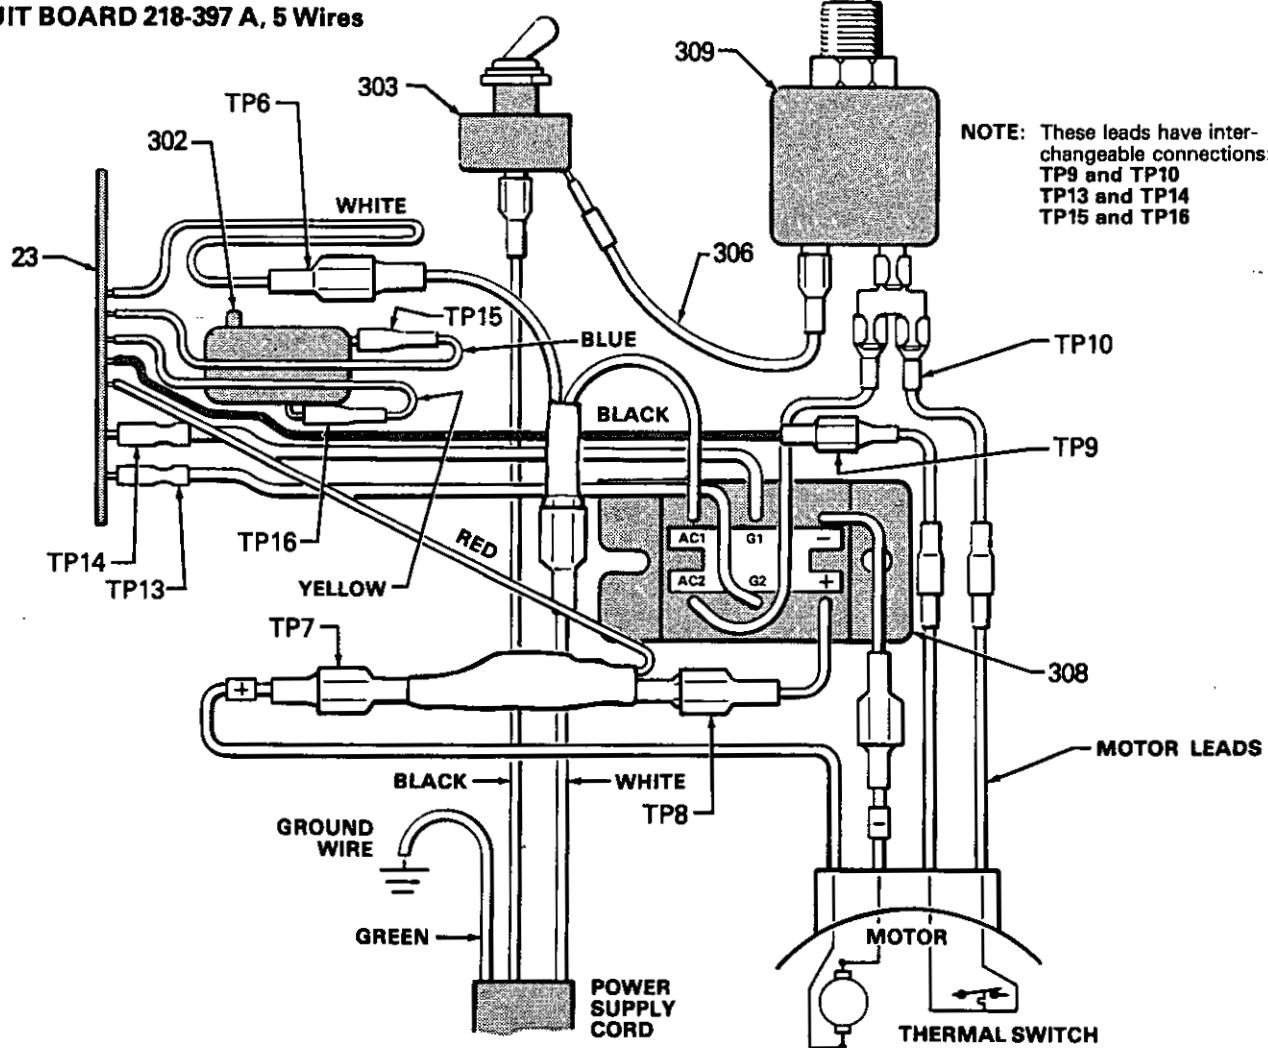

Fig 19
3. Disconnect **ALL** wires from the board, including the two heavy black wires. Refer to Fig 19. Pay close attention to where connections are made.
4. To remove the board from the box, pull out the black plastic-tipped pin (330). Push the **bottom** of the circuit board toward the wall of the box and carefully slide the board out.
5. Install the board in the box at the same angle as it was removed. Reconnect the wires as indicated in Fig 19. Ease the pin (330) into the retainer.